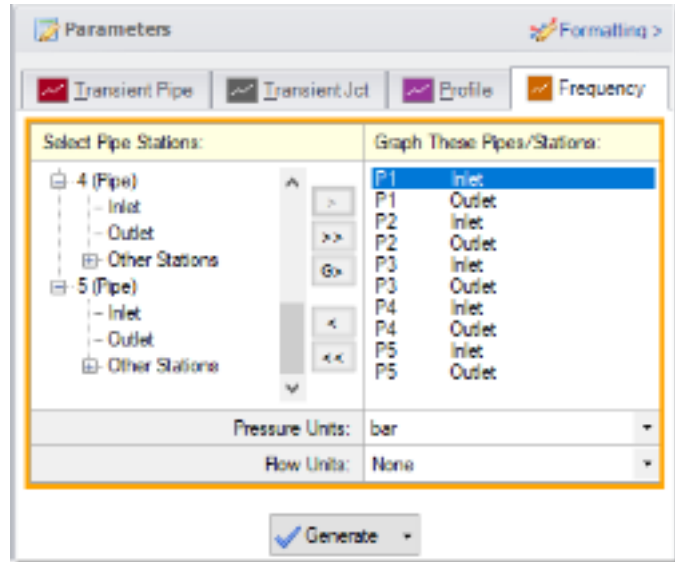

Figure 6.4 Graph Parameters section for the frequency analysis
2. Select the Frequency tab in the Graph Parameter section of the Quick Access Panel (Figure 6.4)